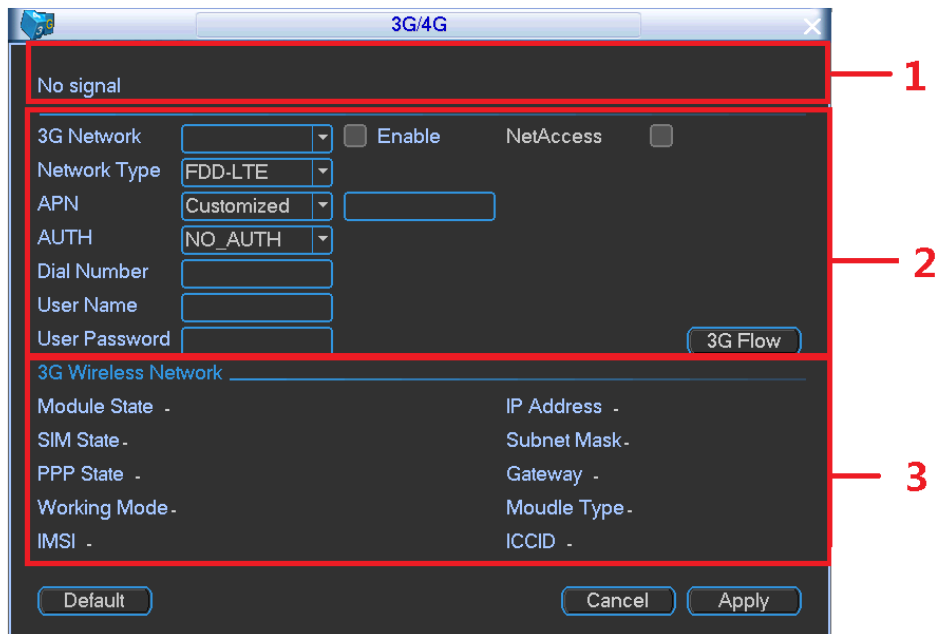

Figure 4-69
Step 1 On the main menu, from Vehicle->3G/4G, Enter 3G/4G interface. See Figure 4-69.